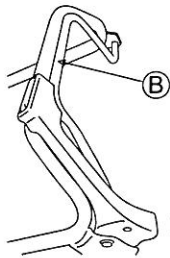

Fig. 3.
4 Push Drive clutch lever (B) forward to start mowing. (See Fig. 3.)